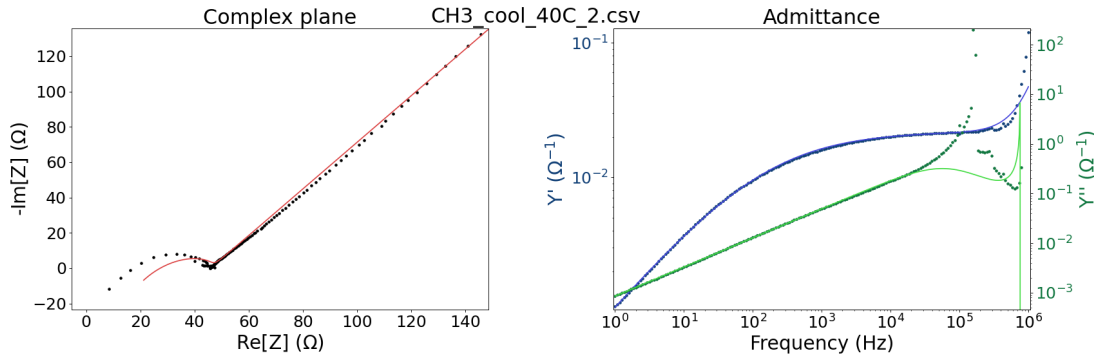

Figure 21: Alternative view of the $\text{RbOH} \cdot x\text{H}_2\text{O}$ spectrum.
10. To verify that the fit is of good quality, it is worth looking at the result in a few different plot types. For example, changing the right-hand side plot to Y' and Y'' vs. frequency (Figure 21) reveals a few measurement artifacts around 100 kHz and the apparent breakdown of the model above 600 kHz.